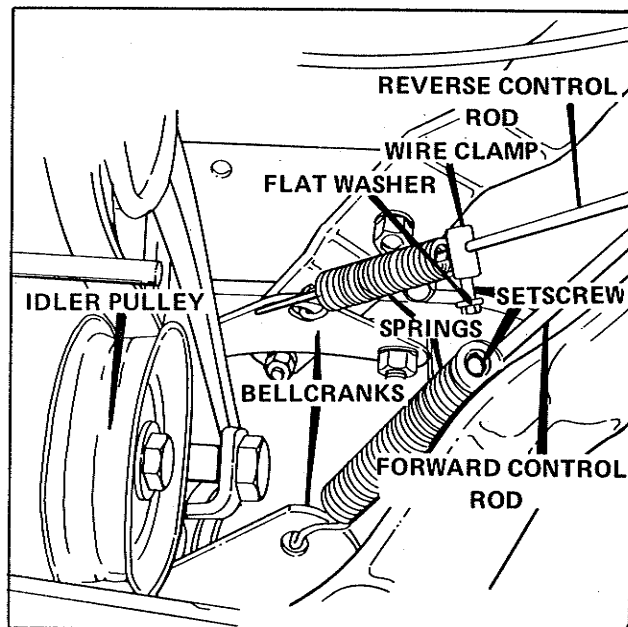

Figure 5.
- b. See Figure 5. Attach reverse and forward control rod springs to bellcranks.
- c. See Figure 5. Slide reverse and forward control rods through wire clamp inside of spring. Loosely secure rods in clamps with setscrews and flat washers. Hook loose end of springs on setscrews between flat washers and clamps.
d. See Figure 5. Adjust spring tension by loosening clamp setscrews and moving clamps on control rods. Idler pulleys should be approximately 1/4-inch from frame when clutch disengaged (handle released). Belt stops should be 1/8-inch from belts when clutch engaged (handle compressed). See Adjustments section of this manual for clutch adjustment procedure.
3. See Figure 5. If clutch does not operate as described above in steps 1 and 2, loosen wire clamp setscrew and adjust wire clamp on forward or reverse control rod to obtain required spring tension.